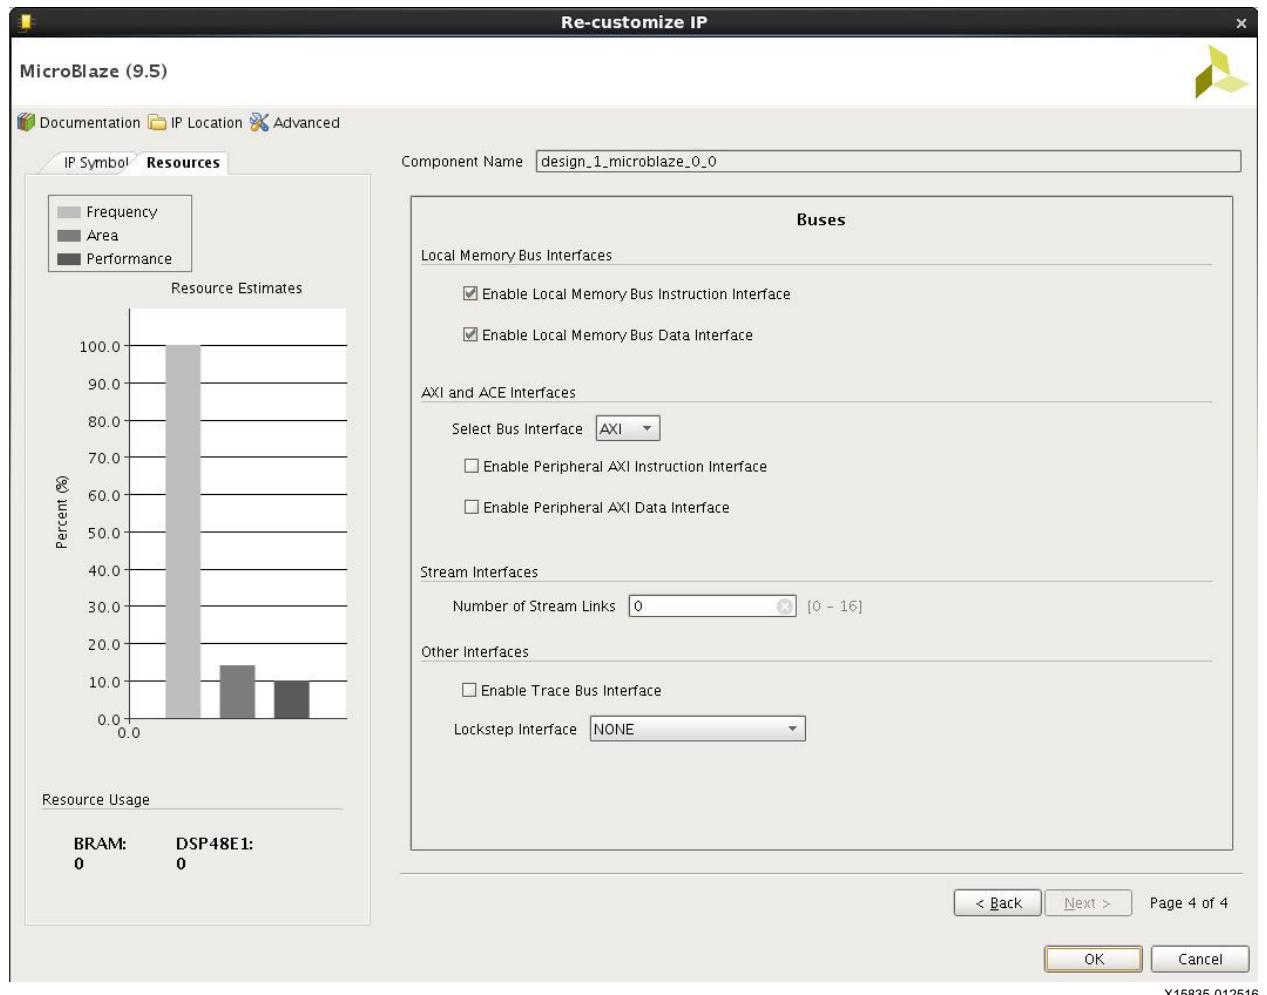

Figure 7: MicroBlaze Customization Wizard
10. Double click the MicroBlaze page to begin customization. Check the *Enable MicroBlaze Debug Module Interface*. Click *Next* until the fourth page (Figure 7). Select to enable both the local memory bus instruction and data interfaces. Click *OK* to finish customization.